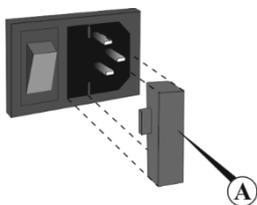

Figure 7. Fuse holder
8.3 **Fuse replacement.** Disconnect from electric circuit. Remove the power plug from the rear of the unit. Pull out the fuse holder by applying leverage in recess (fig. 7/A). Remove the fuse from the holder. Check and replace with the correct fuse if necessary. Consult with the table below (type **M** - time lag: **Medium**):